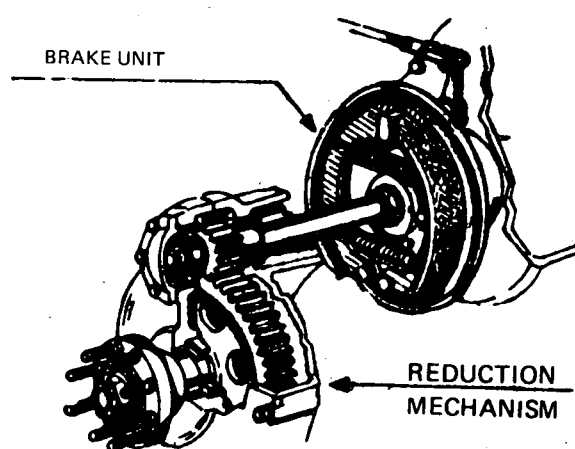

Fig. 3
- e) Remove the reduction mechanism if necessary (Fig. 3).